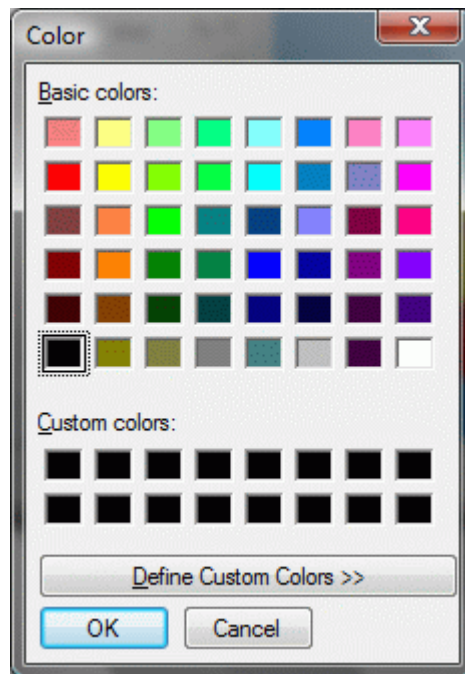

Figure 2. Color window
- Press on the particular column cell. The **Color** window appears on the screen (see Figure 2).